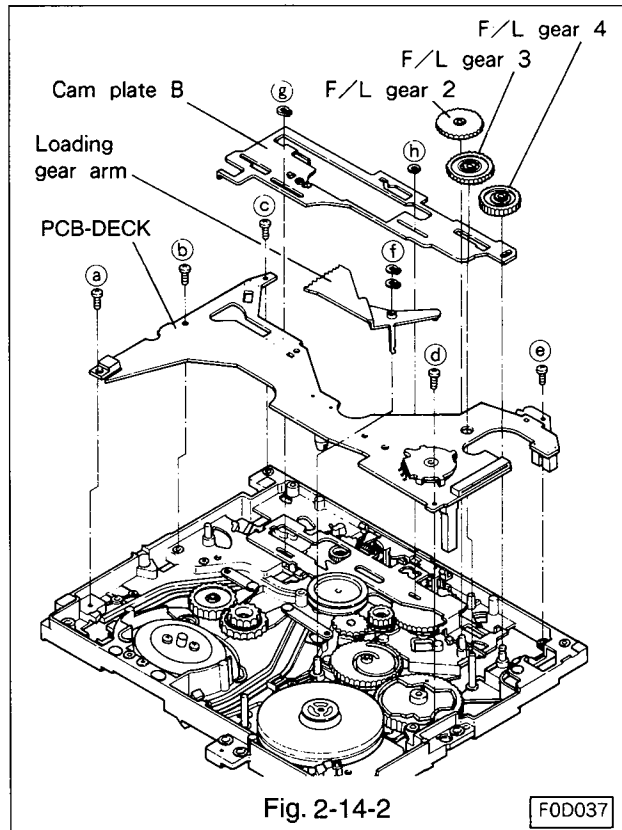
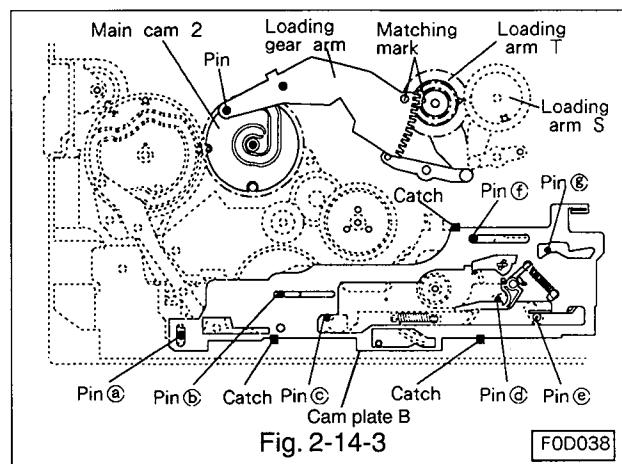

Fig. 2-14-2
Fig. 2-14-3
- Detach two grip rings (f) shown in Fig. 2-14-2 and remove the loading gear arm.
- Unfasten the catches and remove the F/L gear 2, 3 and 4.(Refer to Fig. 2-14-2.)
- Remove grip ring (g) and cut washer (h), and unfasten three catches shown in Fig. 2-14-3 to remove the cam plate B.(Refer to Fig. 2-14-2.)
- Unscrew five fastening screws (a ~ e) and remove the PCB-DECK.(Refer to Fig. 2-14-2.)
- Install the cam plate B by paying attention to the pin (a ~ g) positions shown in Fig. 2-14-3, and secure the plate with three catches, grip ring (g) and cut washer (h).
- Line the matching mark on the loading arm T and that on the loading gear arm as shown in Fig. 2-14-3, and assemble the loading gear arm so that the pin of the loading gear arm shall enter the groove of the main cam 2. Secure the loading gear arm with two grip rings (f).
- Assemble the F/L gear 2, 3, and 4 to the shafts.(Refer to Fig. 2-14-2.)
- I. Make certain that the mode switch is in the eject position. Fasten the PCB-DECK assembly with five screws and solder the FE head terminals. (Refer to Fig. 2-14-2 and 2-14-1.)